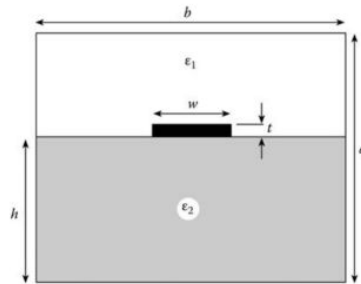

FIGURE 3.54
3.24 Modify the program in Figure 3.21 or write your own program to calculate for the microstrip line shown in Figure 3.54. Take $a = 2.02$, $b = 7.0$, $h = t = 0.01$, $\epsilon_1 = \epsilon_0$, $\epsilon_2 = 9.6\epsilon_0$.